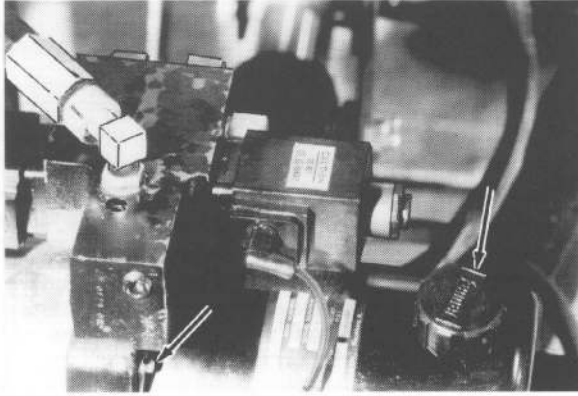

Figure 3-1
6. Remove the four cap screws securing the reservoir to the pump assembly and remove the reservoir. See Figure 3-1.